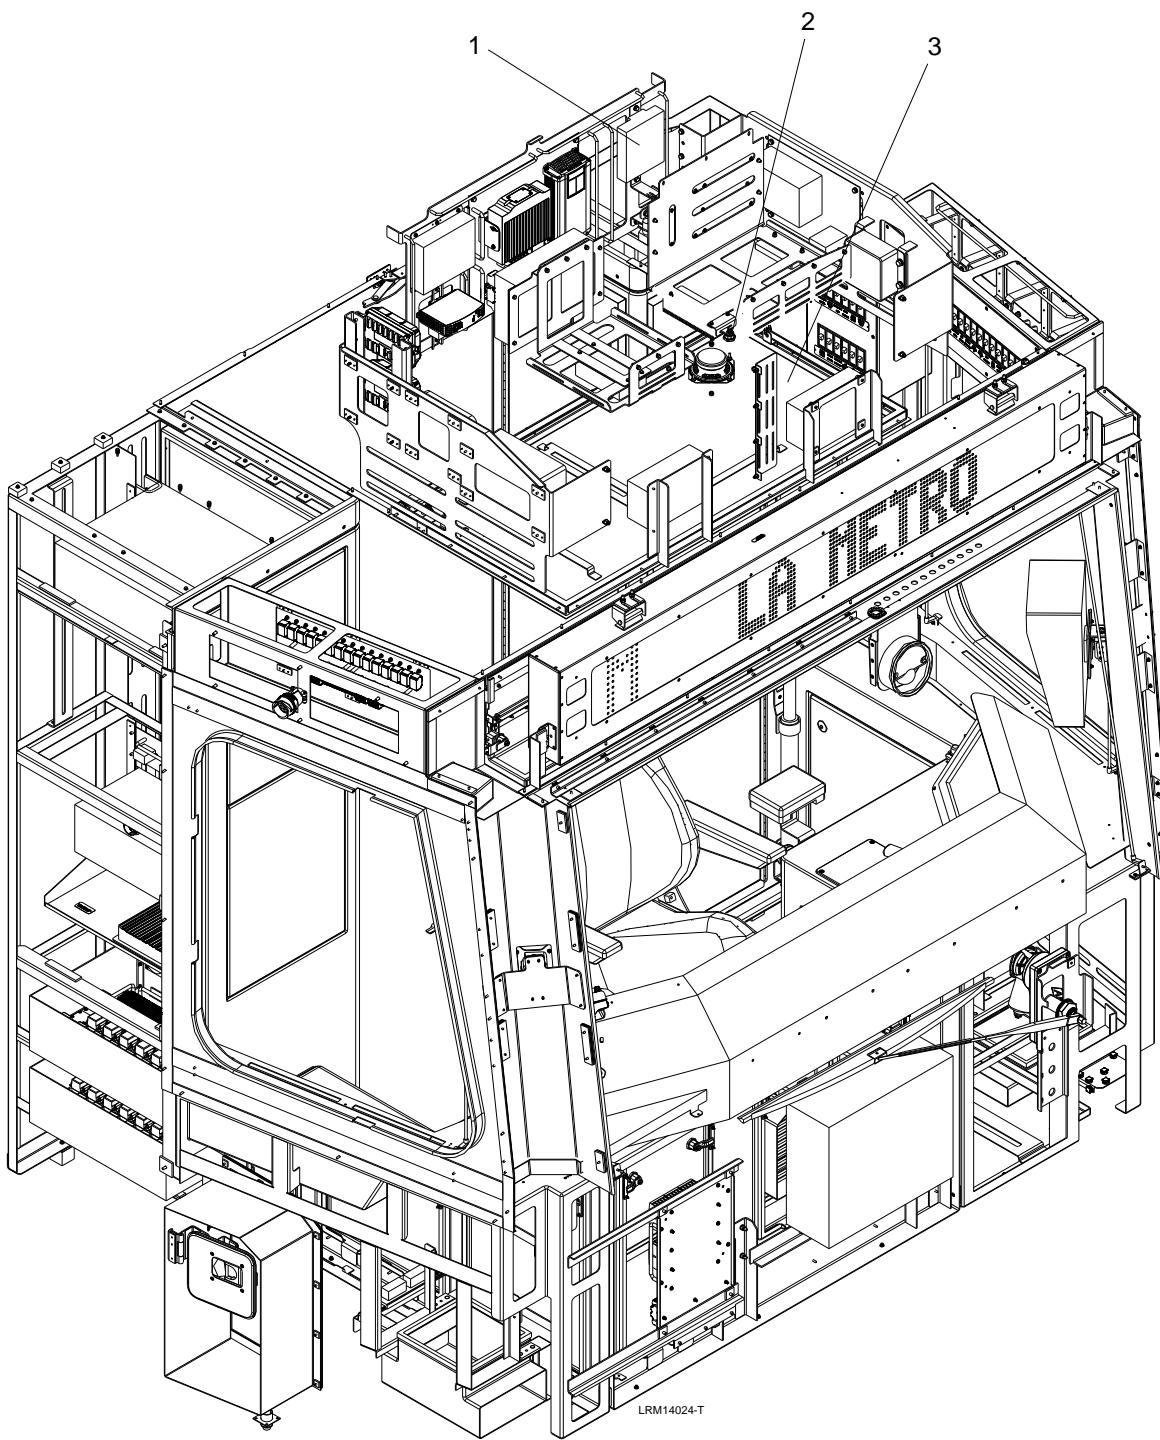

Figure 7-24: Ethernet Remote Input / Output (RIO) Ceiling
1. Unlock the two locks (2) and lower the cab ceiling panel (3) to access the Ethernet Remote I/O (1) and disconnect the electrical connection. See Figure 7-24.
2. Remove the Ethernet Remote I/O (1) by unlatching the lever located on the side.
3. Carefully remove the Ethernet Remote I/O (1).